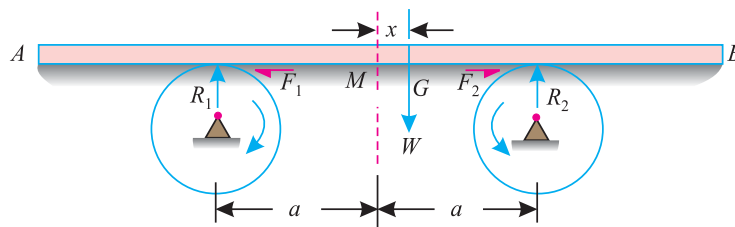

Fig. 23.6.
**Solution.** Let the weight W of the bar AB acting at its centre of gravity G be at a distance x from its mid point as M as shown in Fig. 23.6.